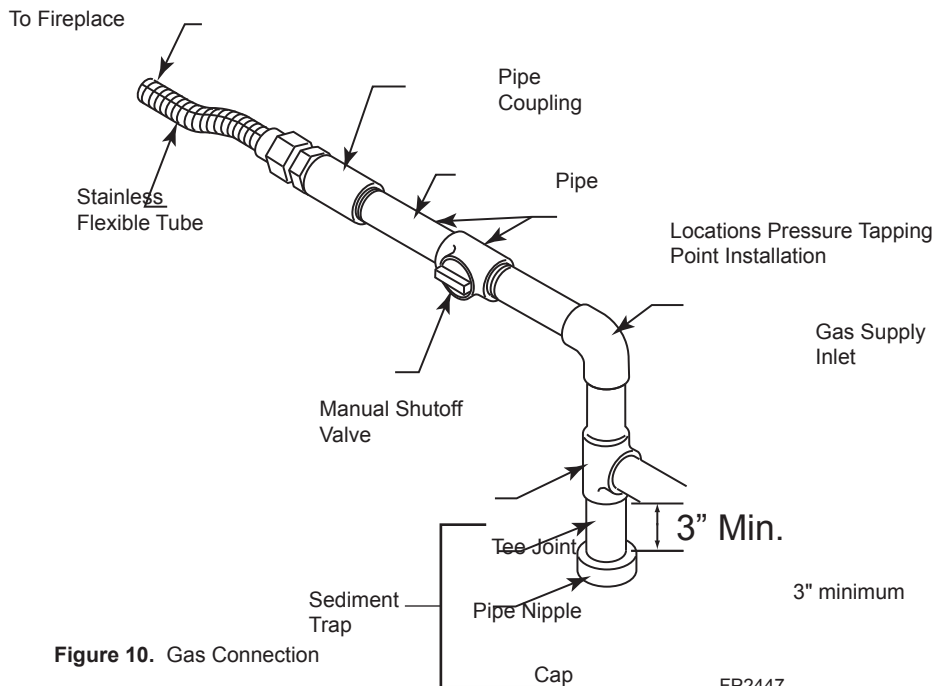

Figure 10. Gas Connection
4. Plumb gas line. Refer to the Connect the Gas (page 11, Figure 10) section found in this manual. (Gas connections should only be performed by an experienced, licensed/certified service person).
A manual shutoff valve must be installed upstream of the appliance. Union tee and plugged 1/8" NPT pressure tapping point should be installed upstream of the appliance. Figure 10
A sediment trap should be installed upstream of the appliance to prevent moisture and contaminants from passing through the pipe to appliance controls and burners. Failure to do so could prevent the appliance from operating reliably. Figure 10